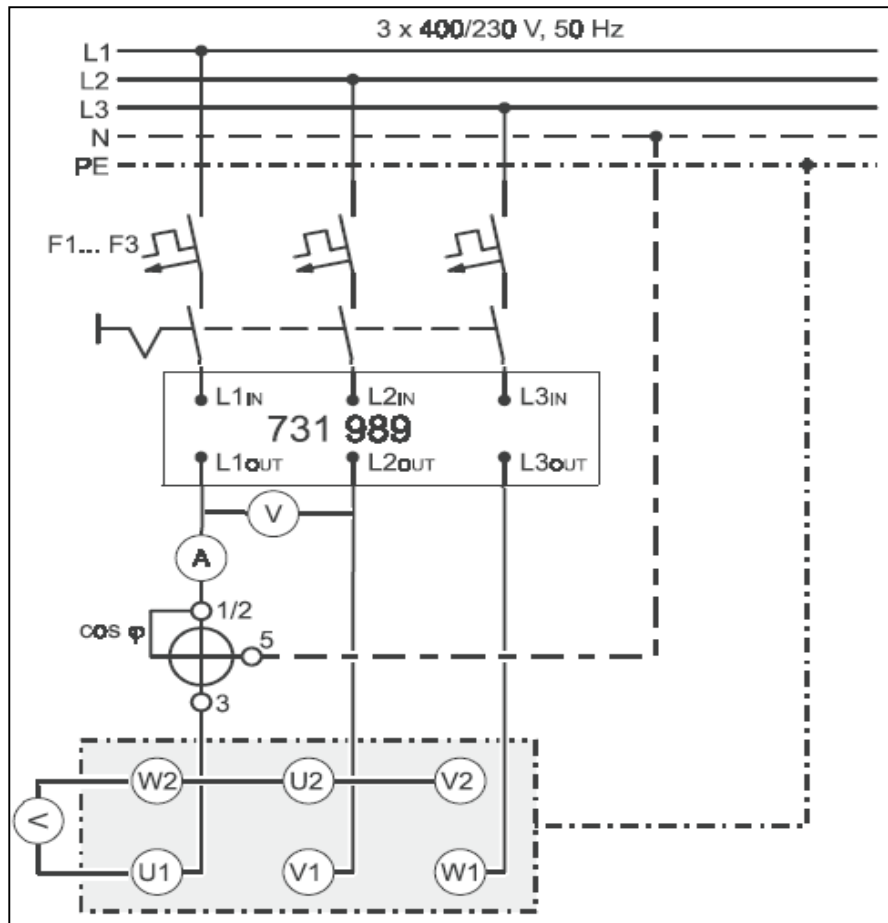

Figure7.2:Connecting the Reluctance Motor in a Star Circuit
1. Set up the circuit as shown in Figure7.2